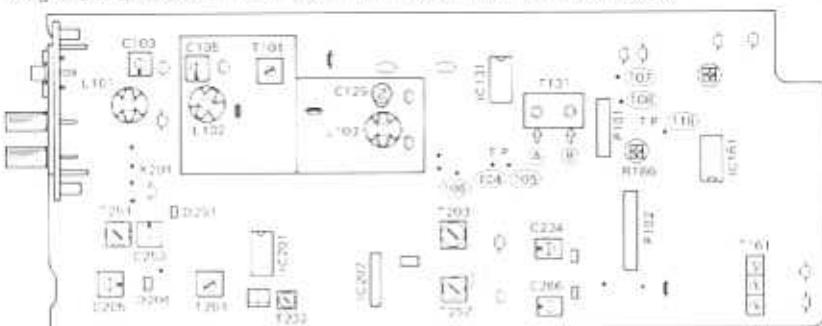

Fig. 14
6. Connect the Frequency Counter to 19 kHz Test Point (TP116) See Fig. 14.